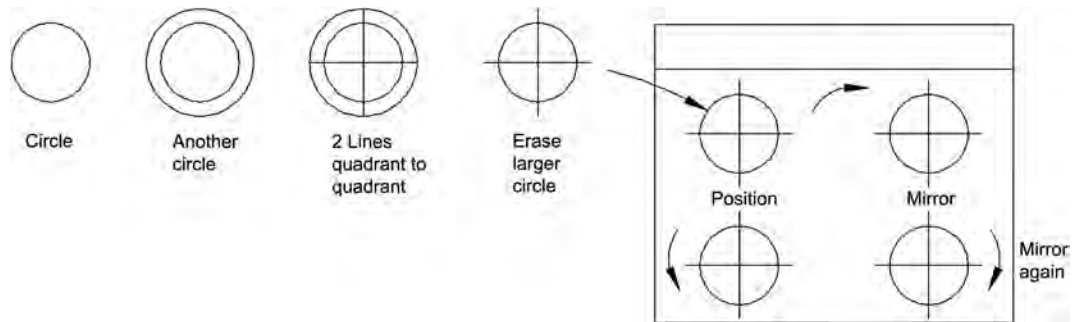

FIGURE 4.18
- All kitchen furniture on the left side of the kitchen is formed using basic rectangles, drawn to no particular size. At the top left is a refrigerator with a microwave on top. Next to it is a countertop and a sink. Next to that is the range top with four burners. Figure 4.18 is a suggested procedure for creating the range top.